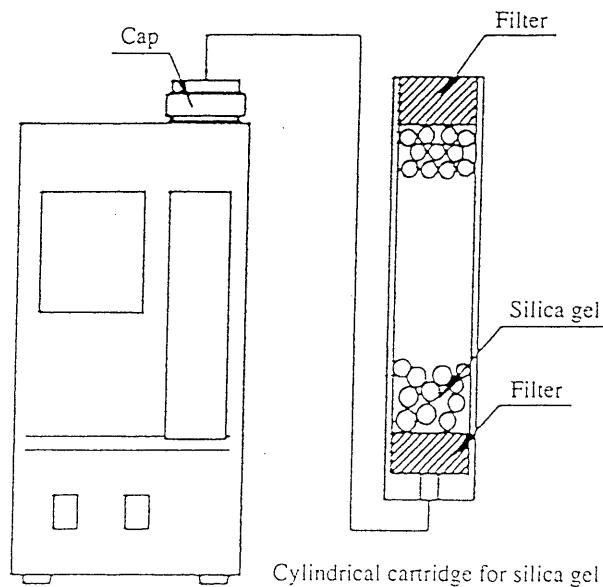

Fig. 11 Replacing the cylindrical cartridge for silica gel
- 7) Set the new upper and lower filters which come as standard with the OPGU, in the supplied standard cartridge or the one removed from the dryer (Fig. 11). Then fill the cartridge with blue-colored, round, dry grains of silica gel (do not fill it with powdered silica gel).